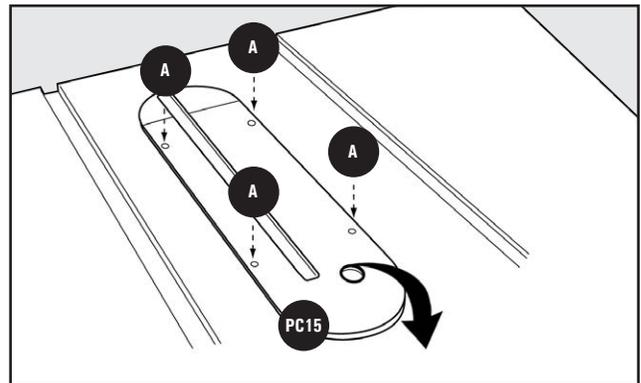

Figure 18
1. To install Throat Plate **PC15**, lower Blade below Tabletop, then carefully feed the Throat Plate, slotted end first, from the rear of the Table to the front, keeping the Blade centered within the slot on the Throat Plate. See Figure 18. The Throat Plate should rest within the cavity in the Tabletop.